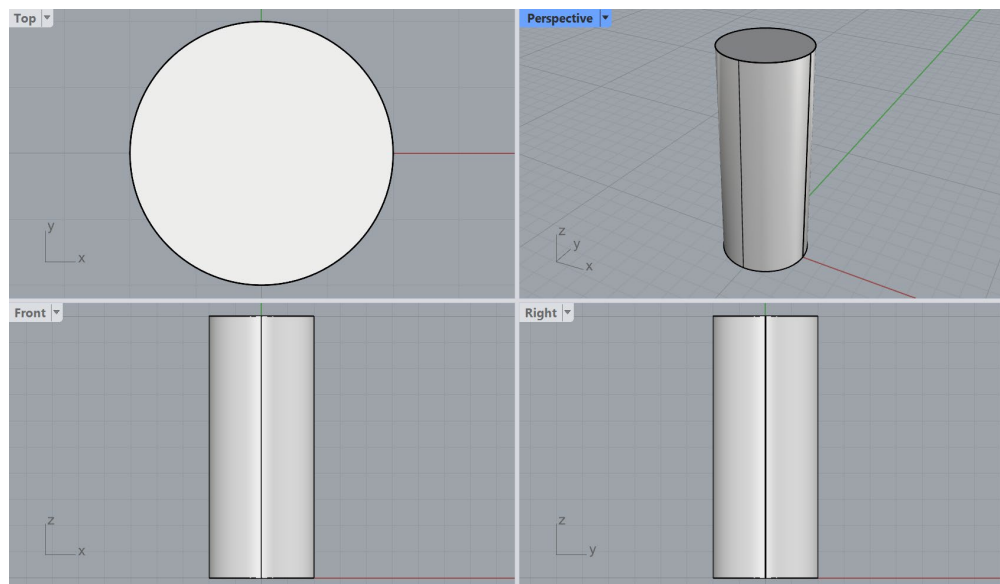

Figure 1: Solid representing a cylinder
3. Type the **_Cylinder** command or select the **Solid Tools** → **Cylinder** menu item. Type **0** and press **Enter** to set the location of the center of the cylinder base at the origin. Next, set the radius of the base to **2**. Enter **10** for the height of the cylinder. Press **Alt+Ctrl+E** to zoom out all viewports to the extent of all objects (or navigate to **View** → **Zoom** → **Zoom Extents All**). This completes construction of the geometry for a simple vertical cylinder (Figure 1).